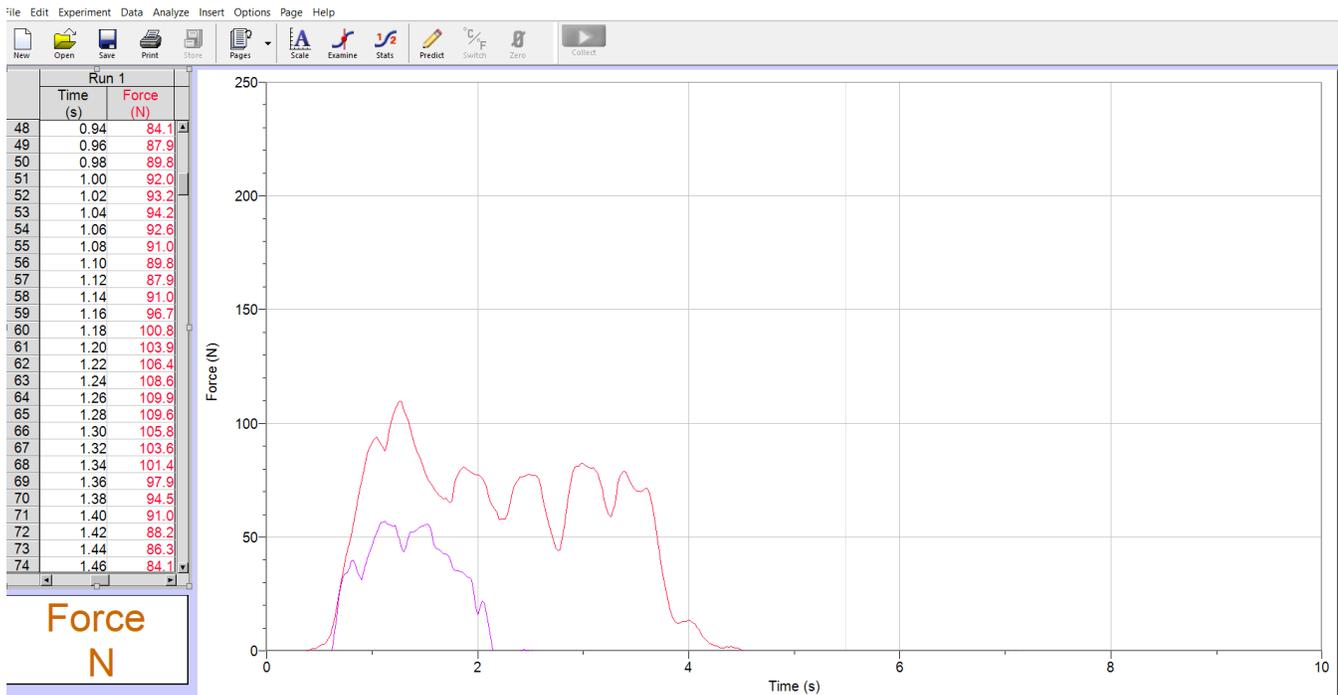

Figure-6. Force plate data showing run on carpet (red/top) and run on tennis balls (purple/bottom).
- g. Be sure to store each experiment trial in order to compare the runs/trials with each other (see Figure-6). After a run, choose experiment>store run. If the run was not successful, you can choose experiment>clear run instead.